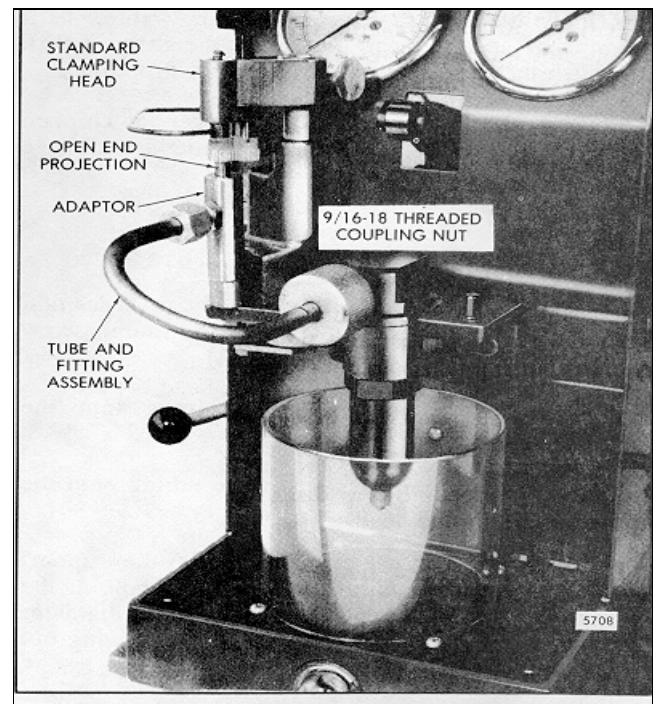

Fig. 15 - Adapter and Tube Assembly on Injector Tester J 23010
4. Mount the adapter and assembled injector parts in the support bracket (adapter plate not needed). Refer to Fig. 15.
2. Swing the clamping head over the adapter and clamp it with the oil supply outlet aligned over the open projecting end of the adapter (Fig. 15).